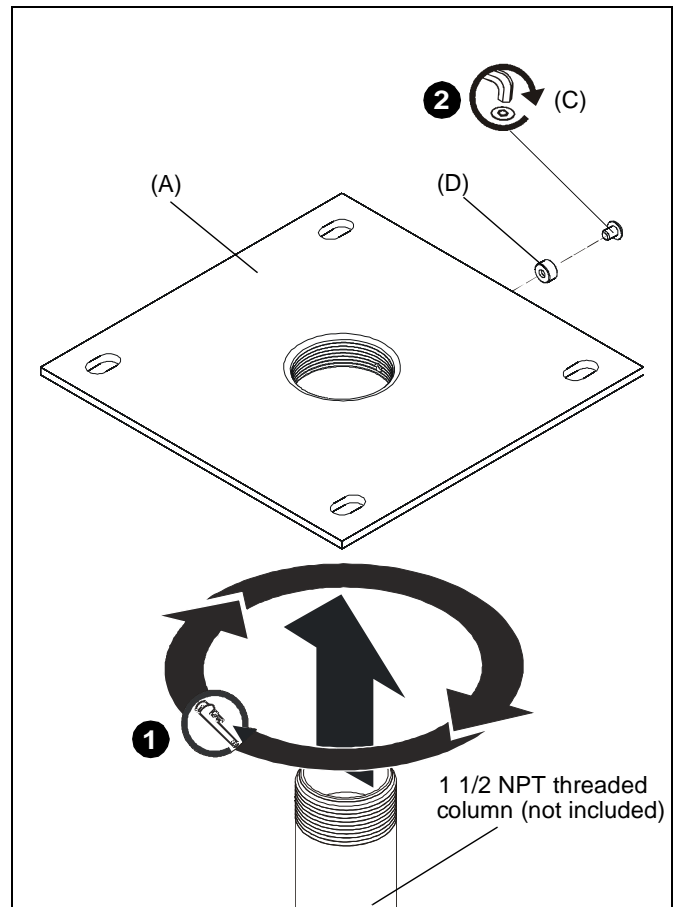

**Figure 2**
1. Install 1-1/2" NPT or NPSM following ANSI/ASME B1.20.1 (Schedule 40, 0.154" minimum thickness steel or aluminum - ASTM B221) threaded extension column (not included) into threaded collar until tight, with a minimum of four threads engaged. (See Figure 2)
2. Install #10-24 1/4" set screw (B) into hole on ceiling plate (A) to secure pipe to mount. (See Figure 2)